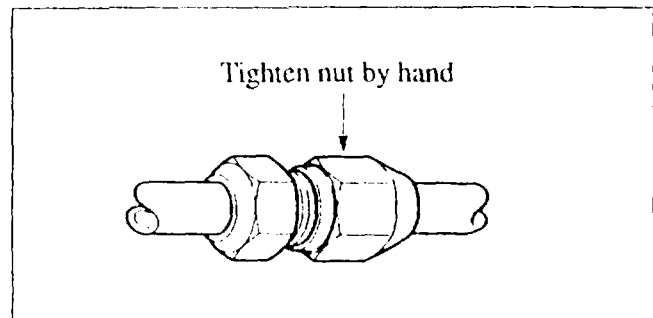

Figure 4: Tightening of Fitting
5. After threading on the nut, tighten it by hand as much as possible (figure 4).